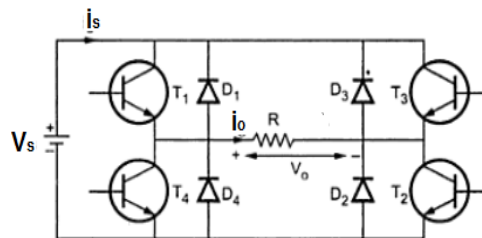

Figure 6.10
- A single phase full bridge inverter in Figure 6.10 has an RL load with  $R=100\ \Omega$ . The inverter frequency is  $60\text{Hz}$  and DC input voltage  $V_s=220V$ . Calculate the RMS output current.